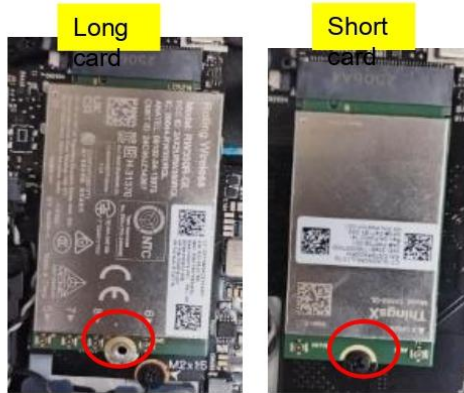

Figure 1
1. **Remove** the screw M2*3 (6052B0302601) and remove the WWAN card (Figure 1).